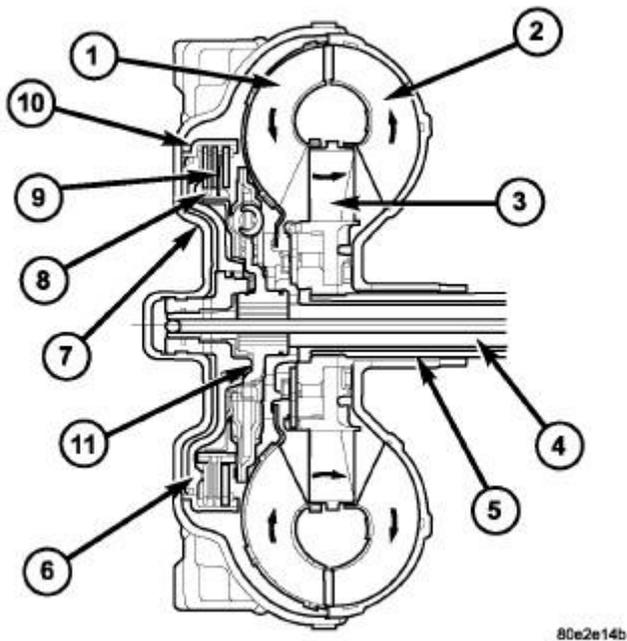

Fig. 216: Identifying Torque Converter Components
In a standard torque converter, the impeller (2) and turbine (1) are rotating at about the same speed and the stator (3) is freewheeling, providing no torque multiplication. By applying the turbine's piston and friction material (9), a total converter engagement can be obtained. Refer to **Fig. 216**. The result of this engagement is a direct 1:1 mechanical link between the engine and the transmission.